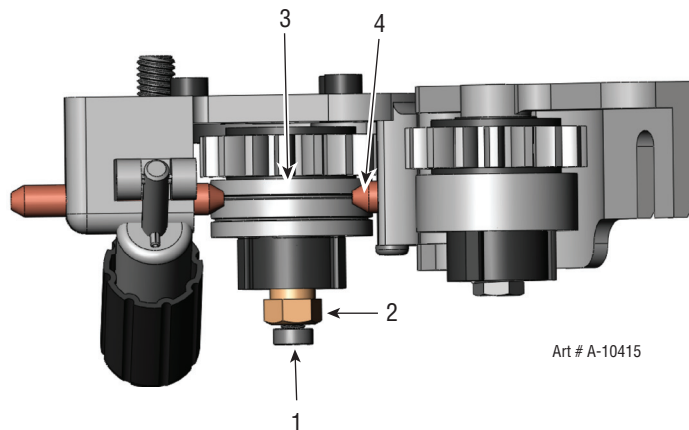

Figure 3-13: Top View of Feed Plate with Pressure Arm Open
8. Figure 3-13 shows the result with wire installed. Continue to the next section for proper setting of tension.
The bottom Feed Roll is adjustable in and out to provide for best alignment of wire as it feeds into the outlet guide. To adjust the roll do the following and refer to Figure 3-13. Note, the welding wire is not shown in order to more clearly see the groove in the feed roll.